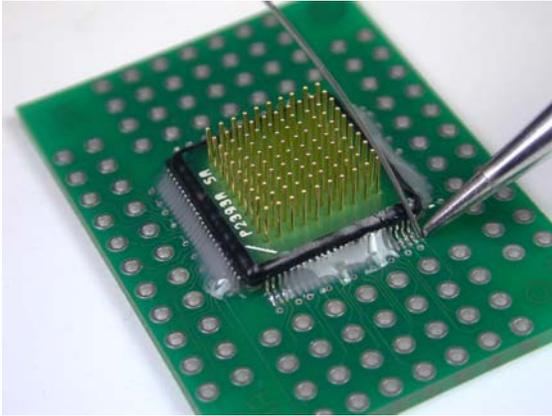

Figure 4: Soldering Process
5. Using a microscope, individually solder each lead of the foot to their pads using solder sparingly. See soldering process in Figure 4. Excess solder will collect on the inboard end of the leads underneath the foot potentially causing solder bridges to occur between adjacent legs. Caution must be used when touching the soldering iron tip to the emulator foot leads to avoid excessive heat, heating time and pressure, which may damage the adaptor or target board pads.